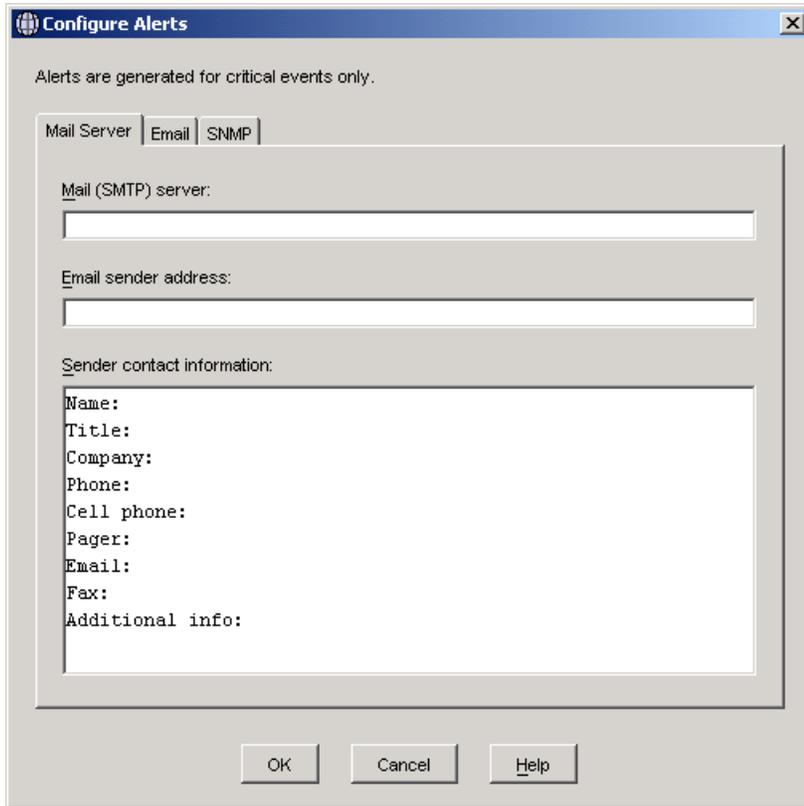

Figure 5-75 Configure Alerts: Defining the SMTP server
4. If you want to send e-mail alerts, you must define an SMTP server first. Enter the mail SMTP server name or IP address of your mail server and the sender e-mail address, usually the administrator address, which will show as originated of the message. We show this in Figure 5-75.